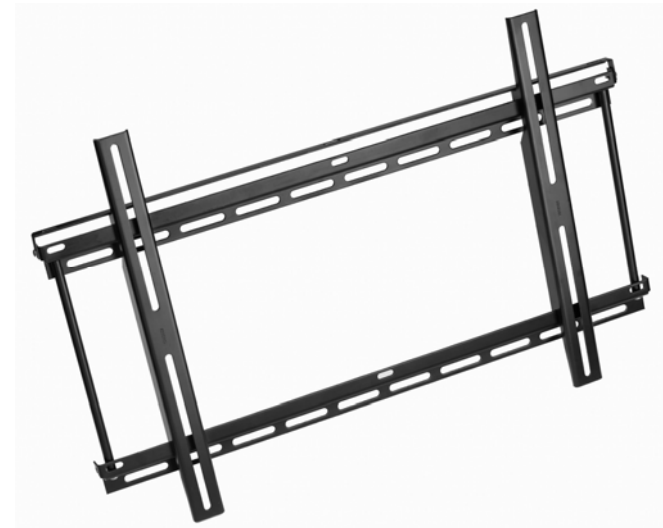

**Fig. 9**
Using the supplied **Hex Pin Wrench**, install the **Locking Bar** across the top of the **Top Wall Bracket** with two **Hex Pin Screws**. (Fig. 9)
The 3/4" spacer (M) may be used by itself (Fig. 7), or in combination with the 5/8" spacer (L), for even greater depth. Stack the two spacers (Fig. 8), and then install them between the display and the mounting rail. (Fig. 9)